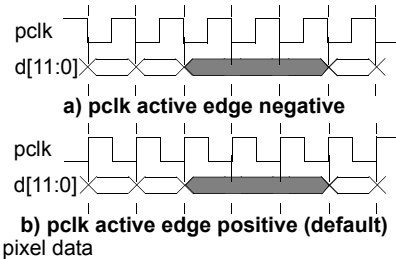

Figure 37. *pclk* in Free Running Mode
- In free running mode the pixel clock output pin, *pclk*, is always running with a fixed period. Pixel data appearing on the digital video bus $d[11:0]$ are synchronized to a specified active edge of the clock as shown in Figure 37.